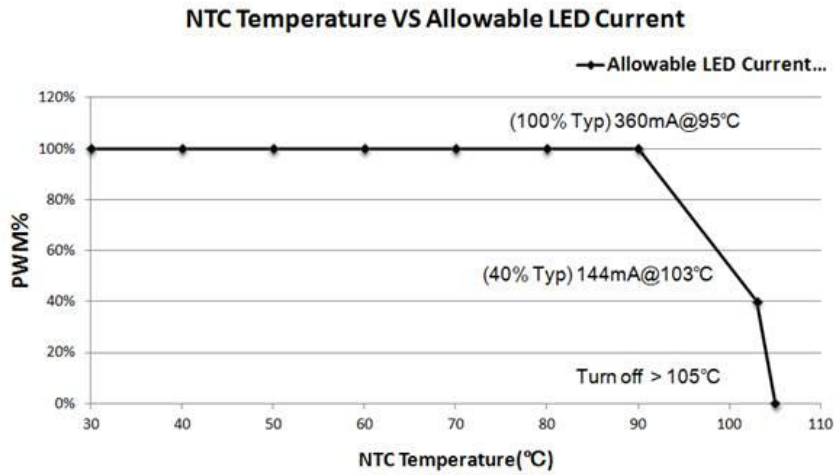

Figure 18 Backlight Current De-rating Curve
Note(7) LED forward current should follow the current of LED vary with environmental temperature (Figure 18 Backlight De-rating Curve)